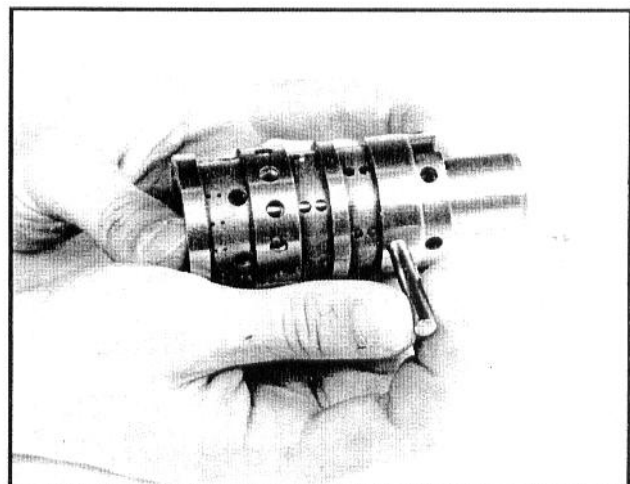
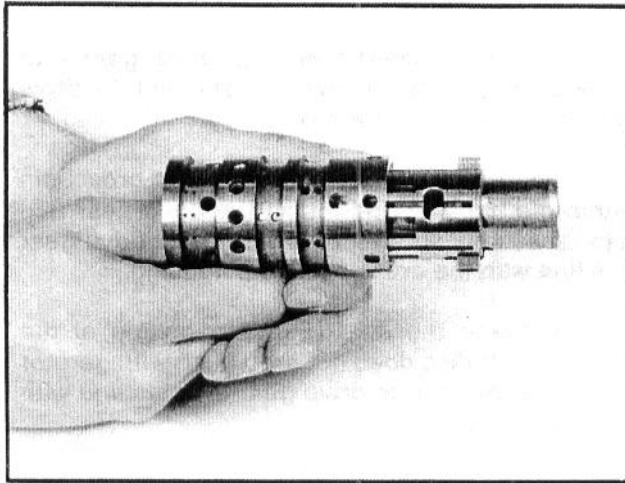

FIG. 20 — REMOVING CROSS PIN
FIG. 21 — REMOVING SPOOL FROM SLEEVE
7. Remove the two pin discs and remove the cross pin from the spool and sleeve as shown in Fig. 20. Remove spool from sleeve as shown in Fig. 21.